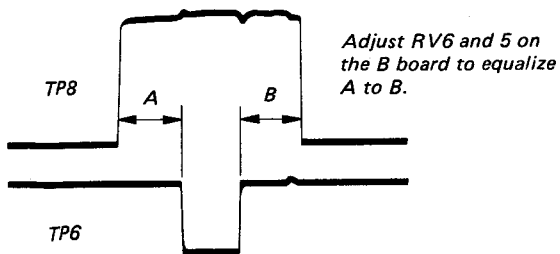

Fig. 5-50.
4. Adjust the 1H sync pulse in NORMAL mode by turning RV6 on the B board. (See Fig. 5-50.)
6. Adjust the 1H sync pulse in H DELAY mode by turning RV5 on the B board. (See Fig. 5-50.)